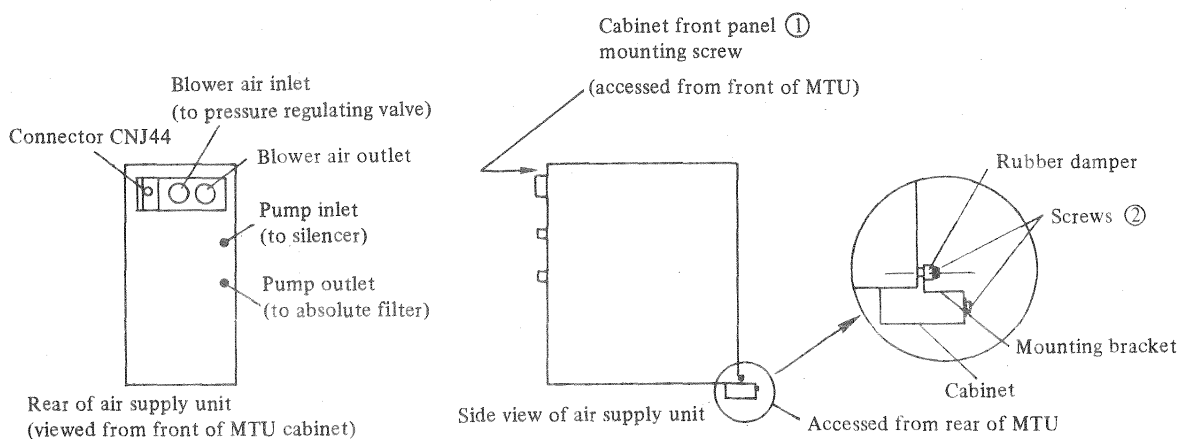

Figure 2.6 Air supply unit removal
(1) Removal
- (b) Disconnect the hose from the blower air inlet and blower air outlet, shown in Figure 2.6.
(2) Installation